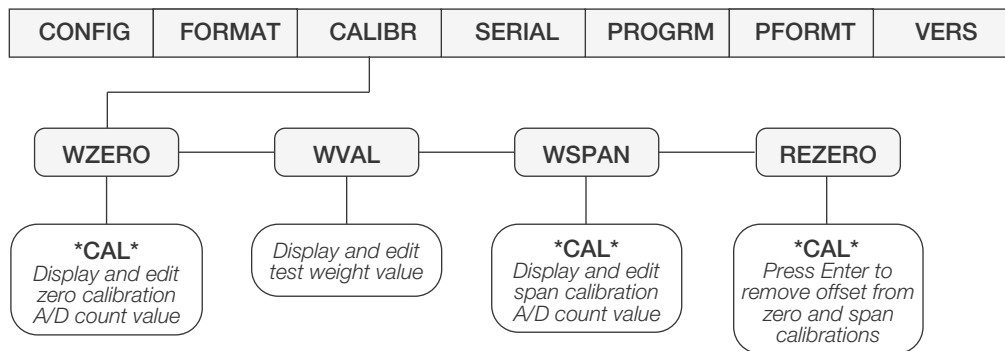

Figure 5-1. Calibration (CALIBR) Menu
2. Press  $\triangleright$  until the display reads *CALIBR* (see Figure 5-1). Press  $\nabla$  to go to zero calibration (*WZERO*).